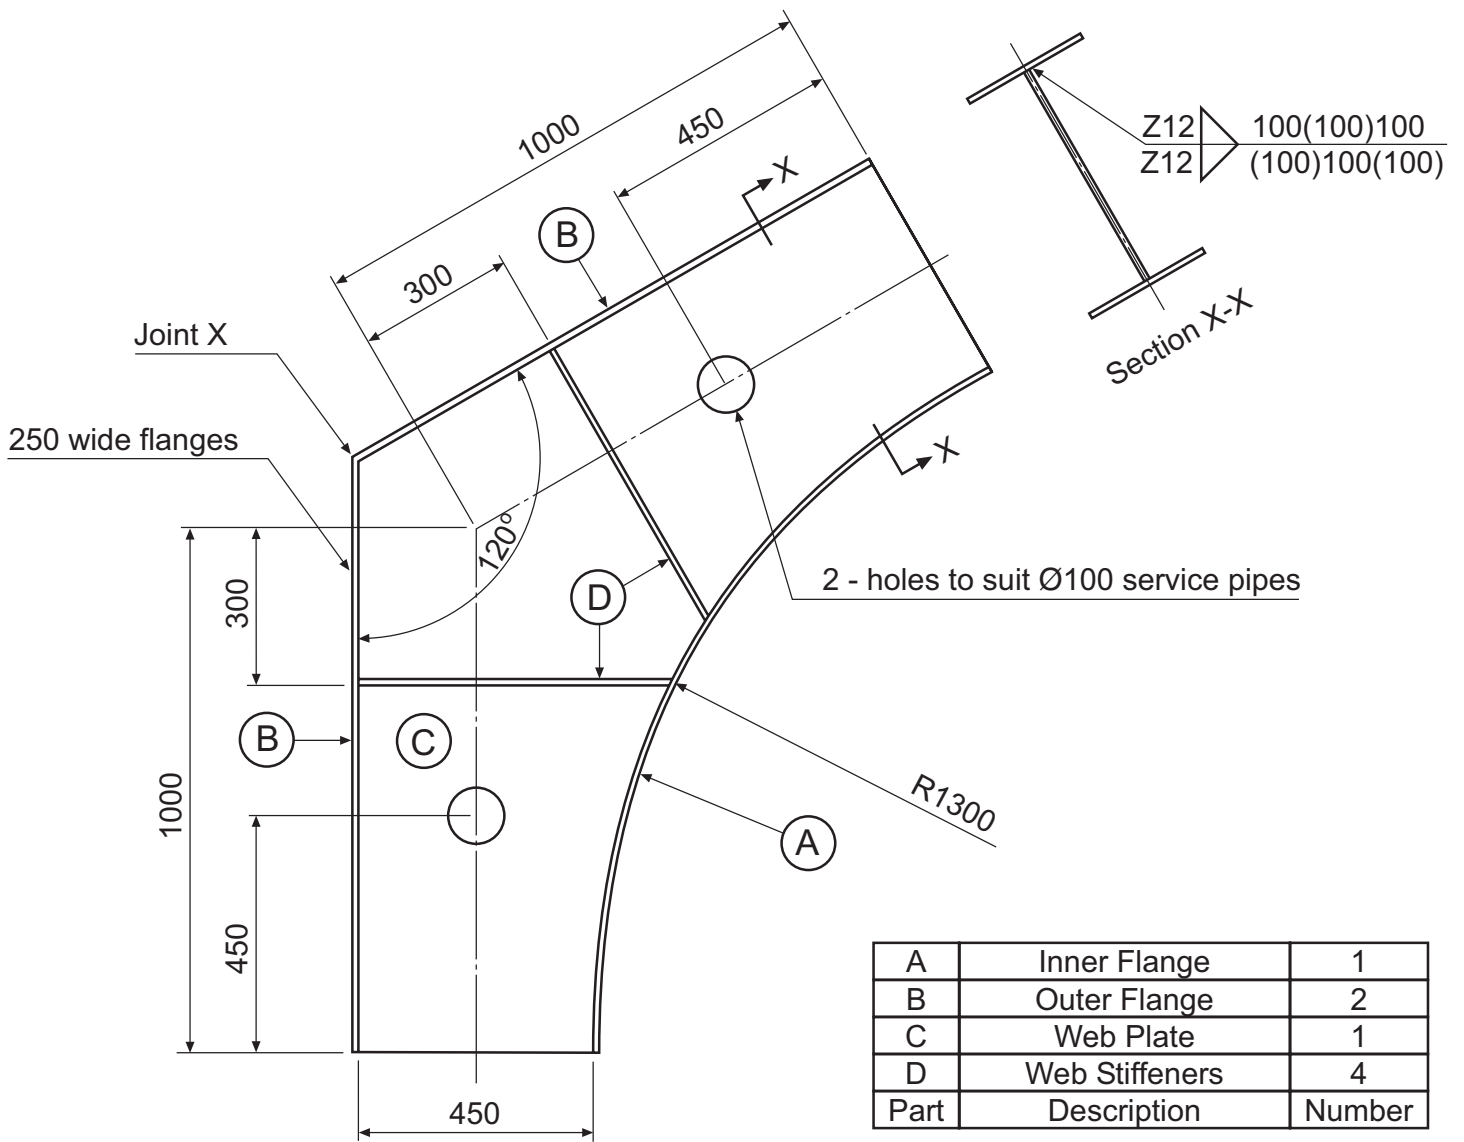

Figure 1
**The case study is based on a sketch (Figure 1).**
Figure 1, on Page 4, illustrates details of a fabricated Portal Knee that has to be manufactured from 10mm thick carbon steel with a composition as shown in the table below.